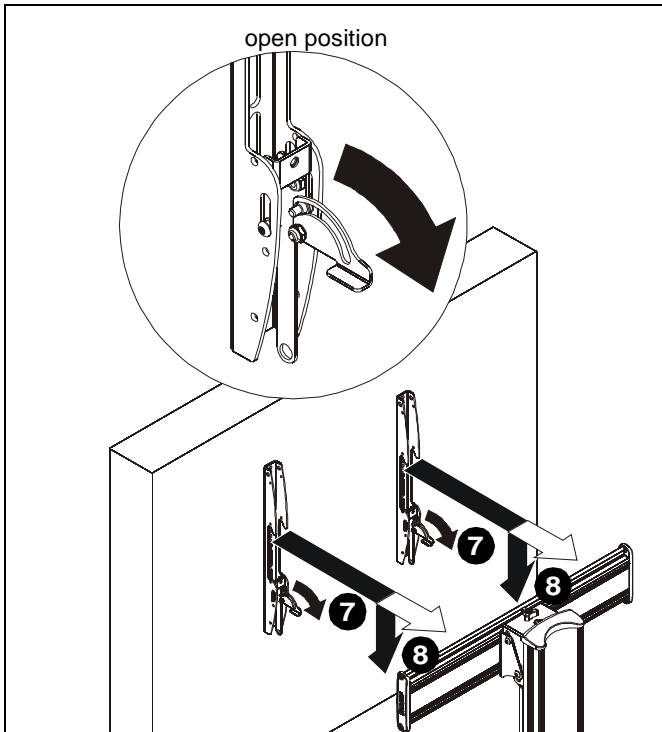

Figure 7
7. Position latches on interface uprights so that they are in the "open" position. (See Figure 7)
8. Hang interface uprights (B) on interface head assembly (E). (See Figure 7)